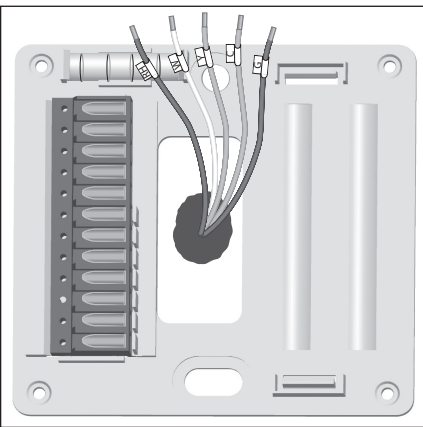

Figure 6.
2. Pull the wires through the back of the mounting plate, ensuring none of the wire labels are removed. Figure 6.